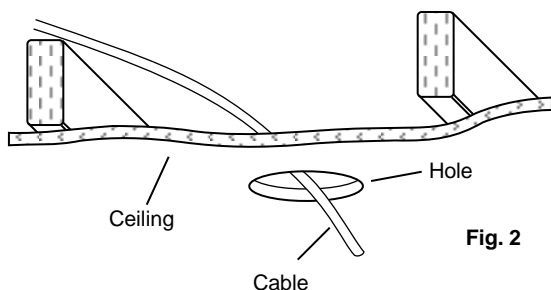

Fig. 2
3. Run non-metallic (NM) cable (also known as Romex) or an armored cable (also known as BX) from your circuit breaker or fuse panel to the hole, providing 6" (15,2 cm) to 8" (20,3 cm) of slack extending below the hole. Cable having up to 12 AWG wiring may be used. (Fig. 2) **(WARNING - Use cables having wires rated 90°C or more.)**